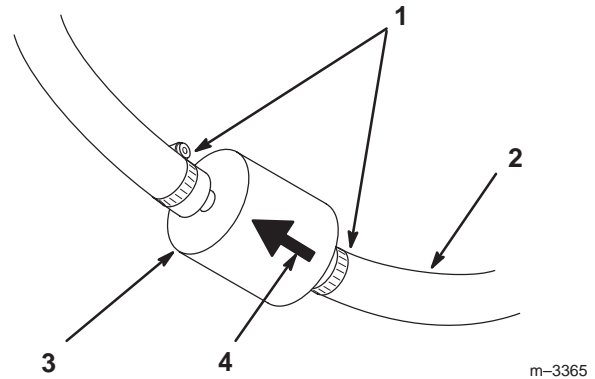

Figure 42
4. Squeeze the ends of the hose clamps together and slide them away from the filter (Fig. 42).